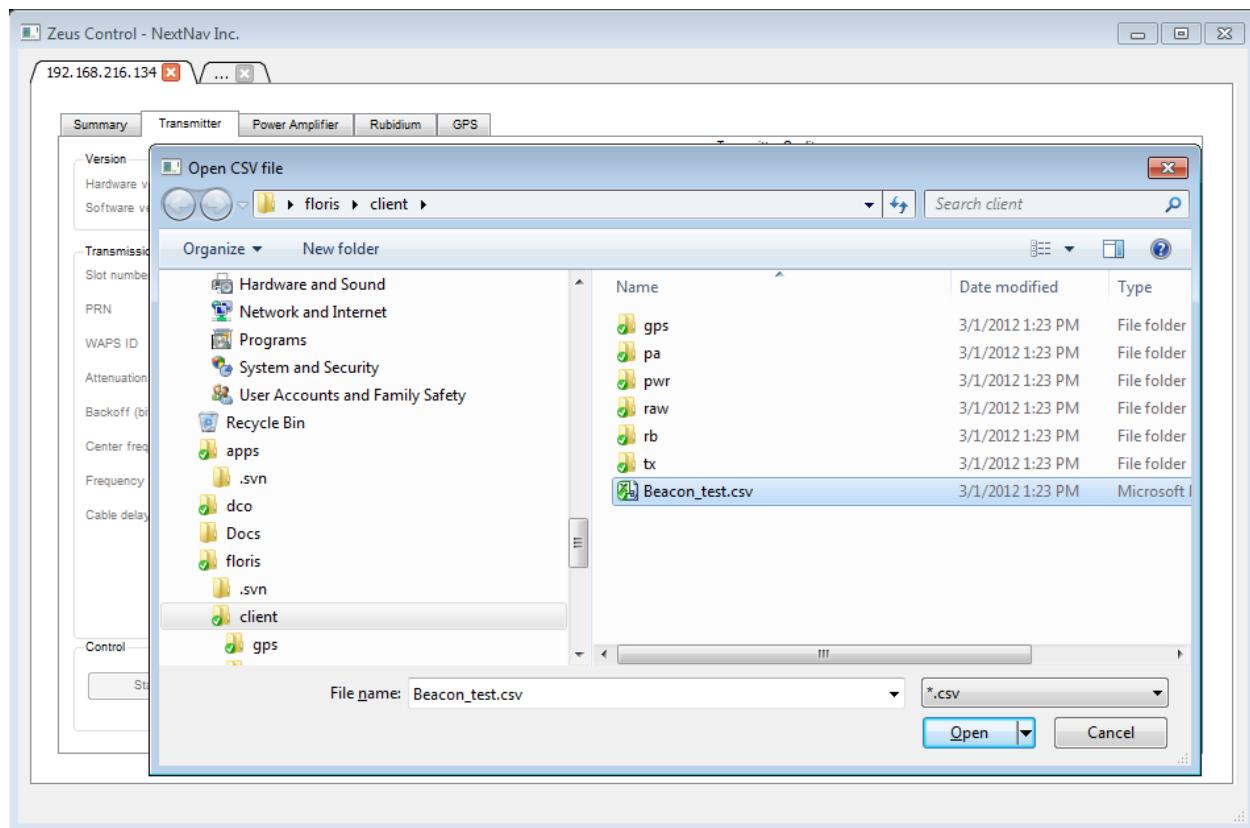

Figure 16: Beacon Configuration Setting
1. Click on 'Import from CSV' to launch an explorer window as shown in Figure 16 and choose Beacon_test.csv' located in the same client folder as the GUI.